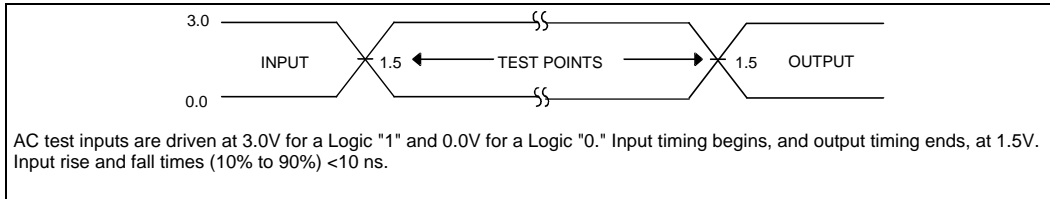

Figure 13. Transient Input/Output Reference Waveform for VCC = 5.0V ± 5% (High Speed Testing Configuration)
5. See Figures 13 through 15 for testing characteristics.